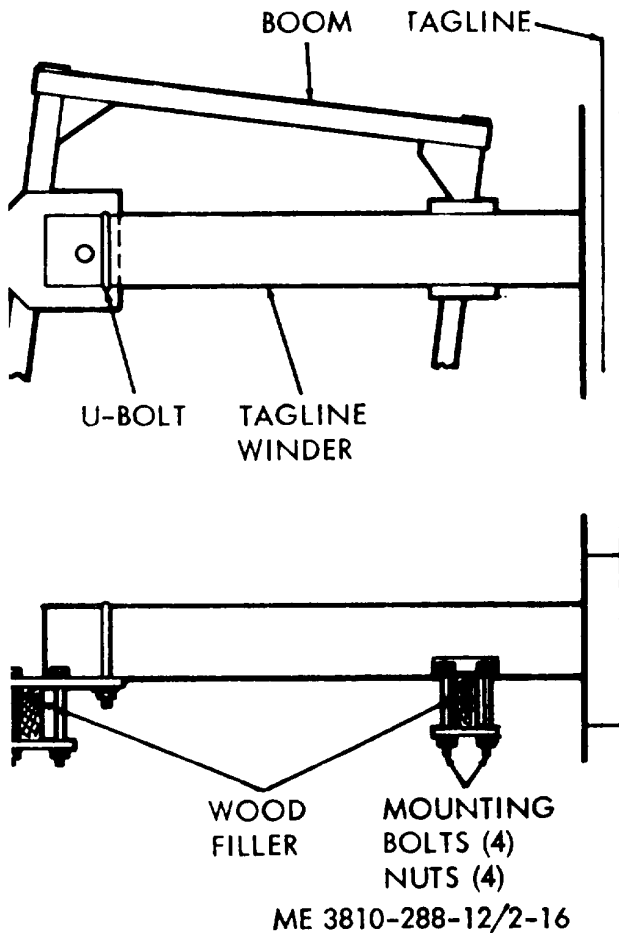

Figure 2-16. Tagline winder installation
(2) Position the tagline winder at an angle on the boom so that the tagline drum is in line with the boom point, and so that the tagline will reel straight off the drum when the clamshell bucket is at half the height of the boom point (fig. 2-16).
(3) Secure the tagline winder to the boom, using wood filler blocks as necessary.
(4) The tension on the tagline winder cable may be increased or decreased as necessary to keep the clamshell bucket from oscillating. To adjust the tension initially, place four or five wraps on the drum, and secure the tagline to the bridle chain. Additional wraps on the tagline drum will increase cable tension; fewer wraps will decrease cable tension.